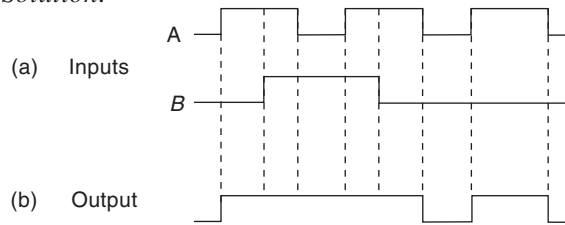

Fig. 4.22 The Output is HIGH when any of the Inputs are HIGH.
4.23 For the two-input waveforms in Fig. 4.22(a), sketch the output waveform showing its proper relationship to the inputs for the two-input OR gate.